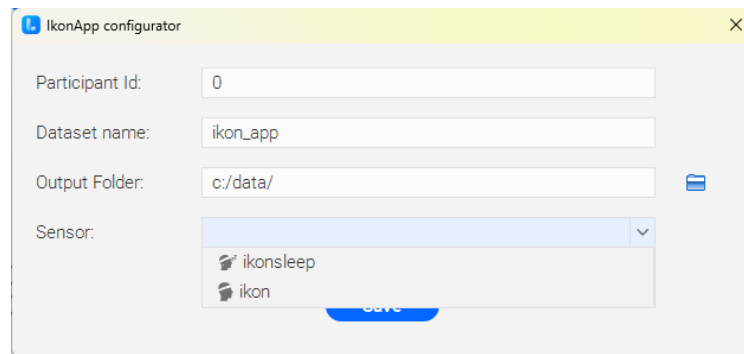

Figure 55. Ikon App Configurator dialog box
- Complete the required information regarding participant ID, dataset name, and output folder, as shown in Figure 55. Then, select the device that was previously configured for use in the recording and click on “Save” to keep the defined parameters.